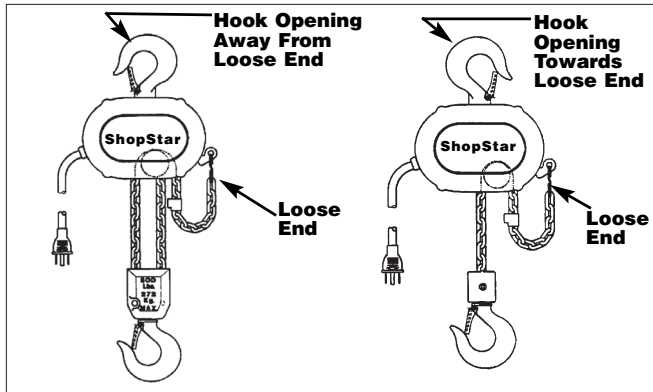

Figure 27 - Chaining Diagram
10. Properly install the upper hook as shown in Figure 27, then slide the hook retainer into the cavity on top of the hoist and secure it using hook retainer screw. Tighten screw to a seating torque of 10 in. lbs. (1.1 NM).